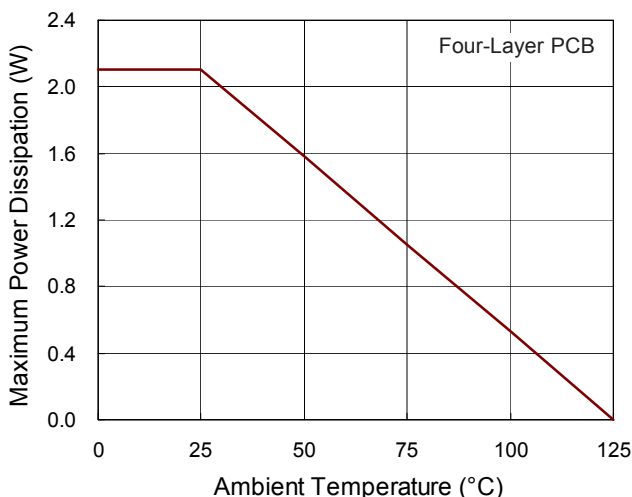
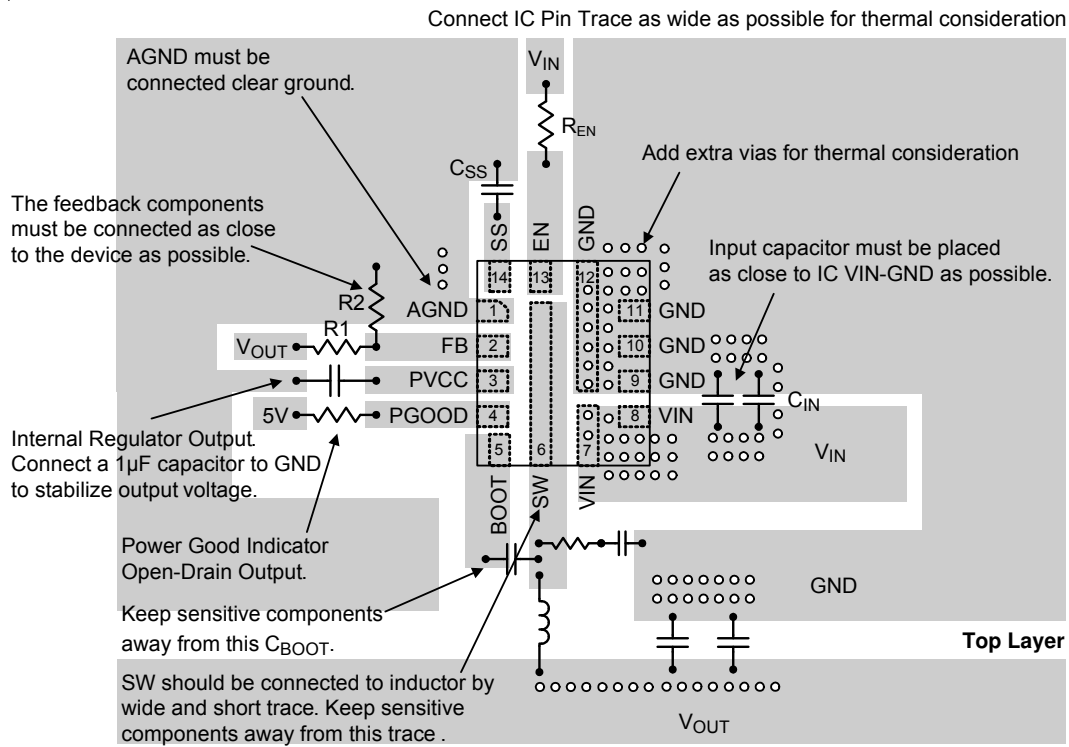

Figure 8. Derating Curve of Maximum Power Dissipation
Figure 9. PCB Layout Guide (Top Layer)
The maximum power dissipation depends on the operating ambient temperature for fixed  $T_{J(MAX)}$  and thermal resistance,  $\theta_{JA}$ . The derating curve in Figure 8 allows the designer to see the effect of rising ambient temperature on the maximum power dissipation.
- ▶ An example of PCB layout guide is shown in Figure 8 and Figure 9 for reference.